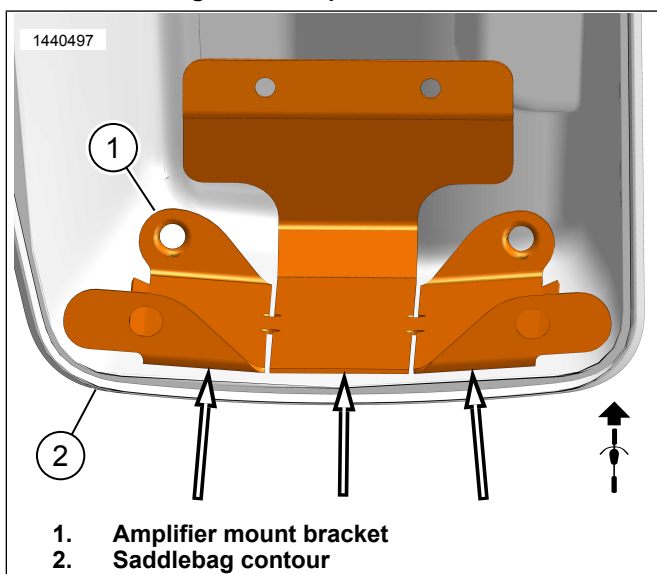

Figure 13. Saddlebag Contour
- See Figure 13. Use slits in the mount bracket (1) to bend and conform to the saddlebag contour (2) without rocking. This will ensure better contact and adhesion with the tape. Do not peel tape at this time.